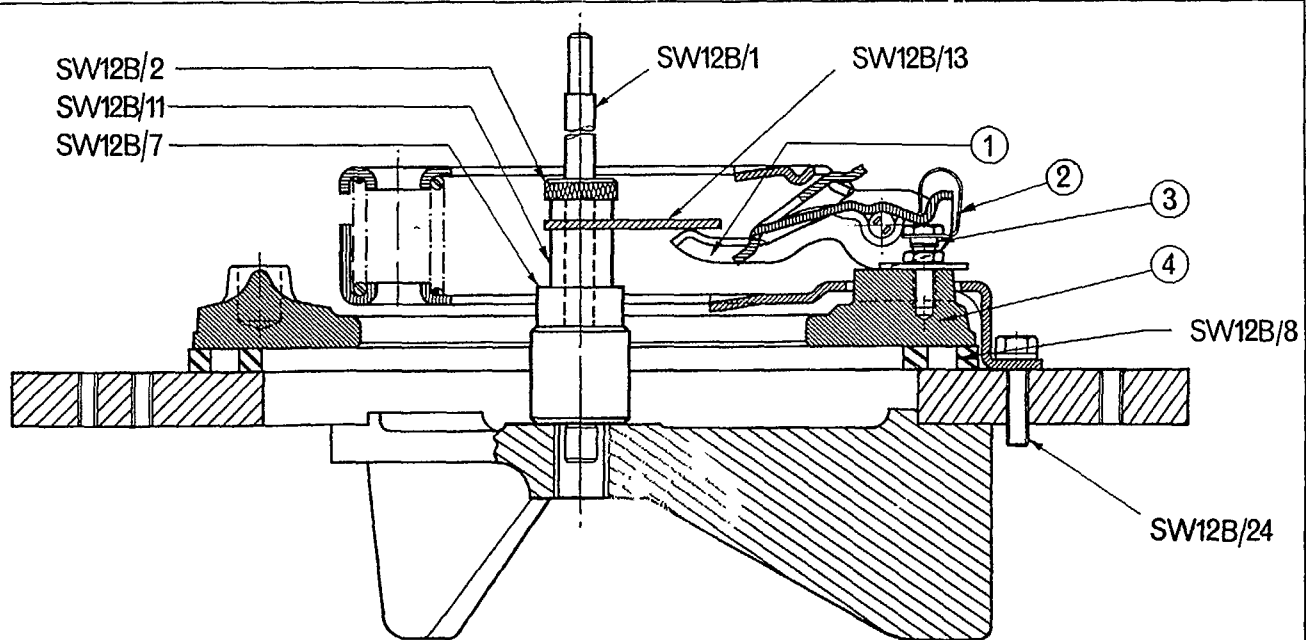

Figure 28
between the pressure plate and the base of the tool, Figure 28. Fully tighten the cover to base plate securing bolts SW12B,24.
10. Move the gauge finger over the inner end of each release lever, Figure 28, and adjust the height of each release lever so that it just touches the gauge finger. As the adjusting screws, Figure 28, were screwed fully into the pressure plate during initial assembly, it will now be necessary to screw them back in order to bring the release levers up to the gauge finger.
12. Install one of the "C" shaped release lever retainer clips over the outer end of each release lever and at the same time push the slotted end of the clip down and move it inward to locate around the adjusting screw. Ensure that the clip seats correctly on the underside of the screw head, Figure 28.